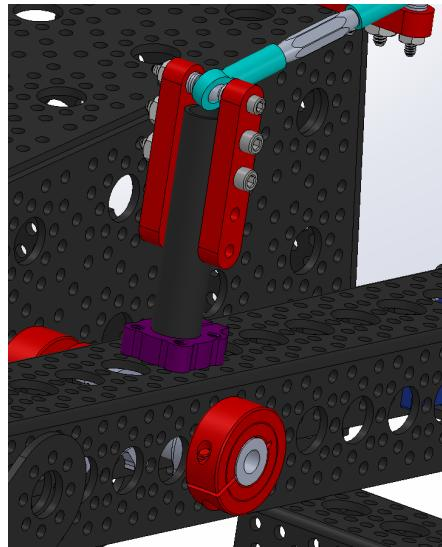

Figure 9: Attaching the differential pivot
7. **Attaching the differential pivot arms:** Attach the the bottom sections of the differential pivot to the 0.5 inch clamping hubs on each of the Rocker-Bogie attachments. Once these are all in place, tighten down each of the screws on all of the clamping hubs as shown in Figure 9.